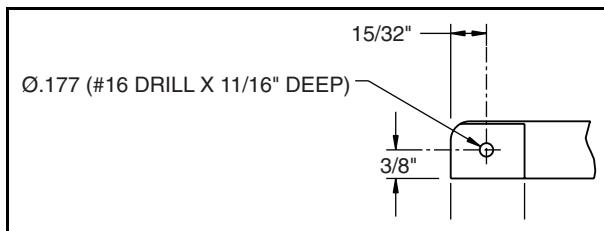

Figure 3A
3. Drill hole for upper door hinge (top of panel) (**Figure 3A**).